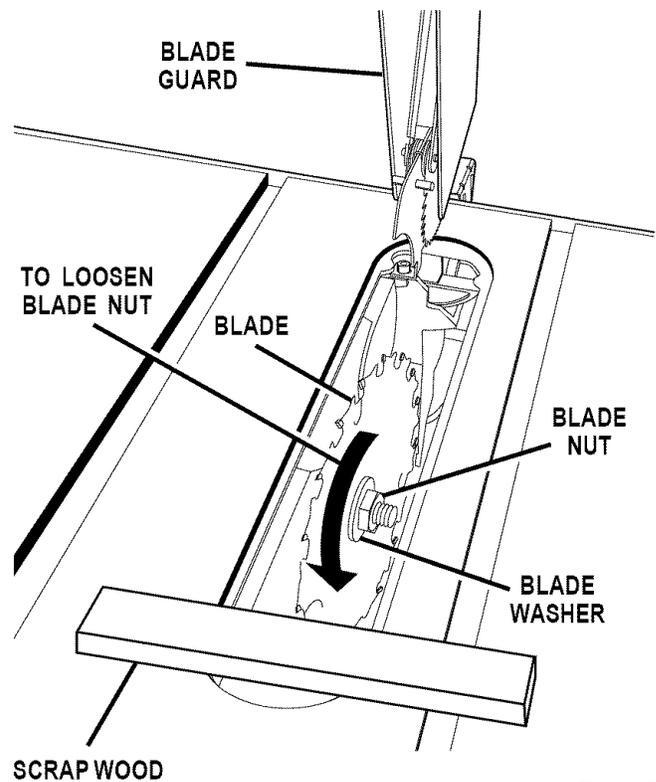

Fig. 35
See Figures 35 – 37.
- Raise the blade to its highest position by turning the height handwheel clockwise. Angle the blade straight up by loosening the bevel lock handle and turning the bevel handwheel. Wedge a piece of scrap wood against the front of the blade. See Figure 35.